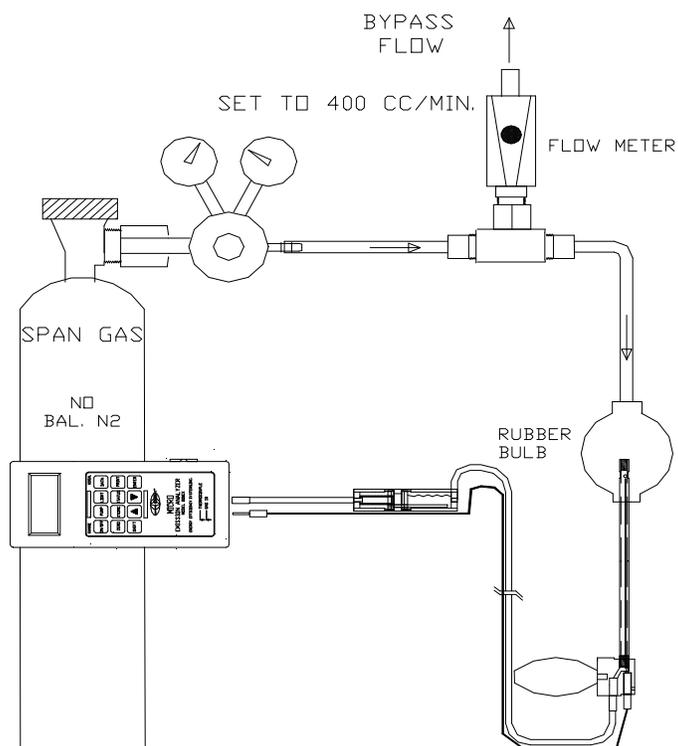

FIGURE 6
To carry out a span calibration USING YOUR OWN GAS APPARATUS See figure 6 and the instructions listed below:
A. Set up your calibration apparatus as shown in fig. 6.